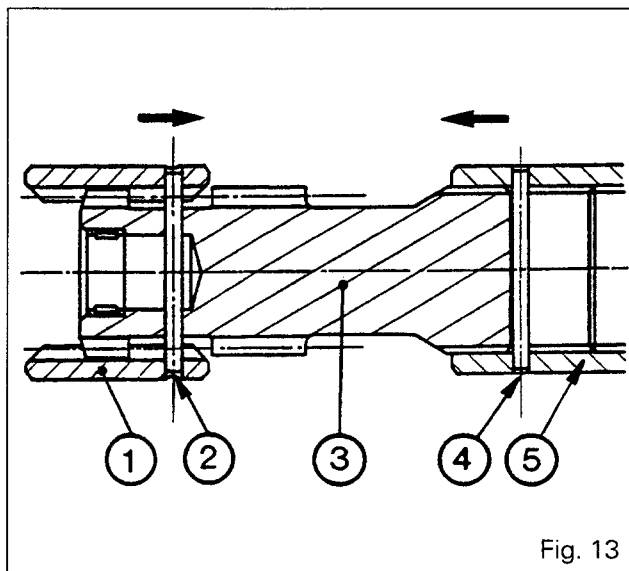
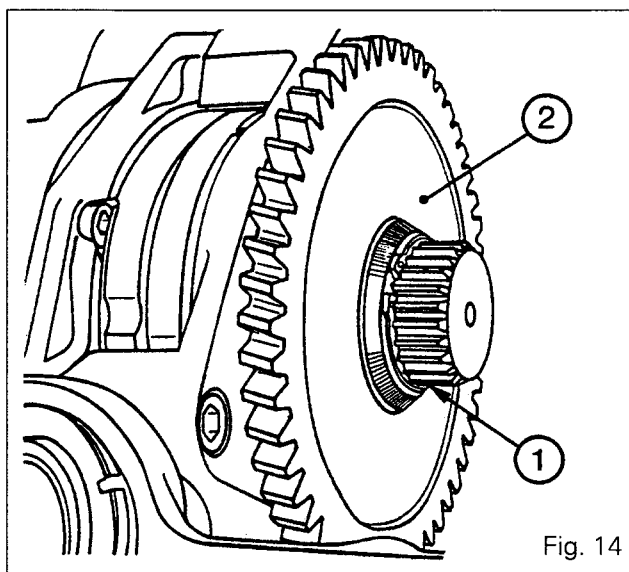

Fig. 13
Fig. 14
56. Drive out the double pins (2) and (4) from the sleeves (1) and (5). Slide the sleeves towards one another on the shaft (3) linking the drive pinion (6) and the output shaft (7) of the gearbox (Fig. 13). Remove the shaft and sleeves assembly.
If the double pins are not accessible, slide the rear sleeve forwards on the 4WD shaft. Rotate the wheel shaft so as to position the coupling sleeve (3) (Fig. 13).
57. Remove the circlip (1).
58. Remove the pinion (2) (if fitted) (Fig. 14).
60. Remove the circlip (1) and the pinion (2) (if fitted) (Fig 14).